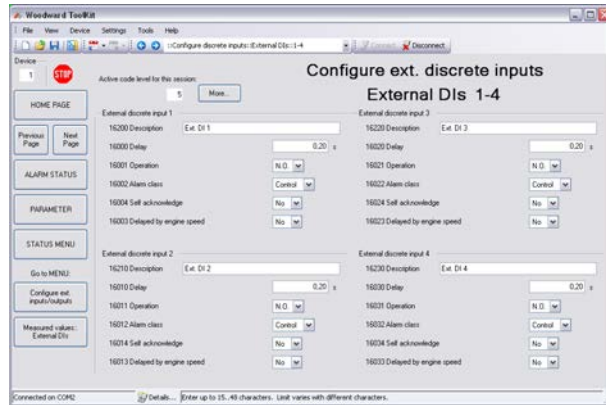

Fig. 215: Setup of external DIs
- ➔ Set up the external discrete inputs using the Toolkit screen shown in ( Fig. 215).